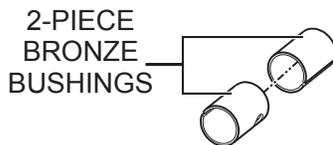

Figure 37. Bronze Bushings
5. Examine the bronze trowel arm bushings (Figure 37), and clean if necessary. Replace bushings if out-of-round or worn.